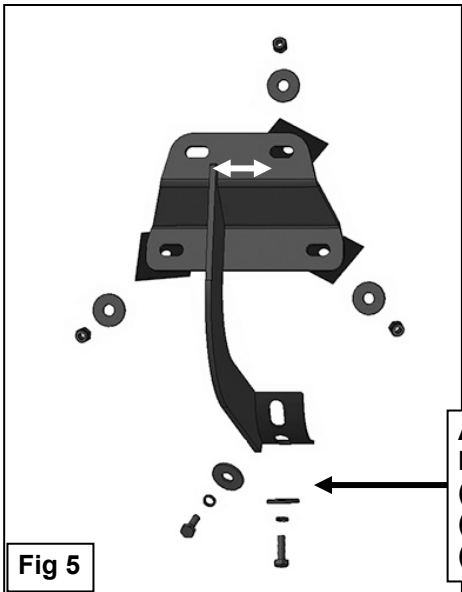

Fig 5
4. Repeat **Steps 1—3** to install the (2) remaining center and rear passenger side Brackets.
5. Select the passenger/right Sidebar. Carefully position the Sidebar onto the (3) Mounting Brackets.
**IMPORTANT:** Do not slide, (front to back or rotate), the Sidebar on the Brackets or damage to the finish on the Sidebar may result. Attach the Sidebar to the Mounting Brackets with (6) 8mm x 25mm Hex Bolts, (6) 8mm Lock Washers and (6) 8mm Flat Washers, (**Figure 5**). Do not tighten hardware.